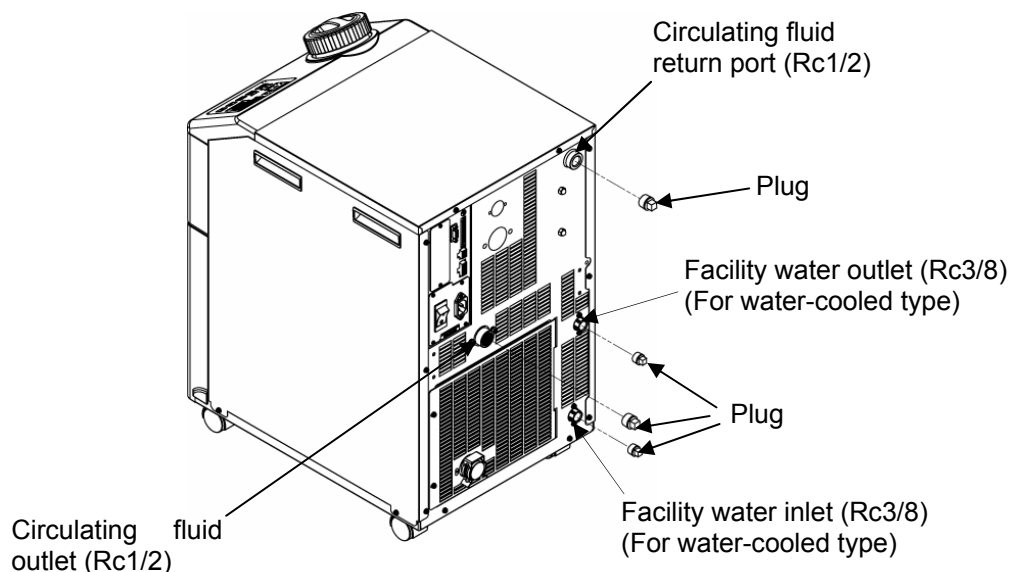

Fig. 7-5 Plug to the piping of the product
9. Refer to Fig. 7-5 to mount the plug to the piping of the product.